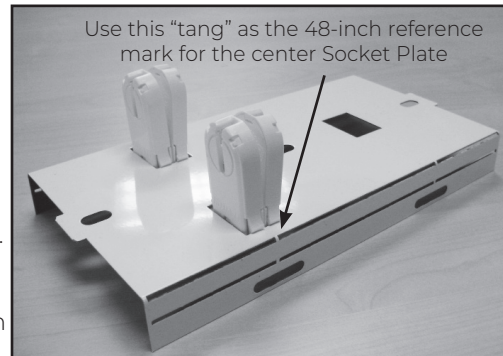

Figure 5: Locate the RetroFit "Center" Socket Plate on the 8-foot luminaire housing.
10. To install the fixture bracket center section, find the center of the fixture housing. Place a mark approximately 48-inches from the left or right end of the fixture housing. When you have located the center of the fixture housing, install the center section socket plate. Align the center section socket plate over the 48-inch mark using the two (2) lamp sockets as a guide. See Figure 5.